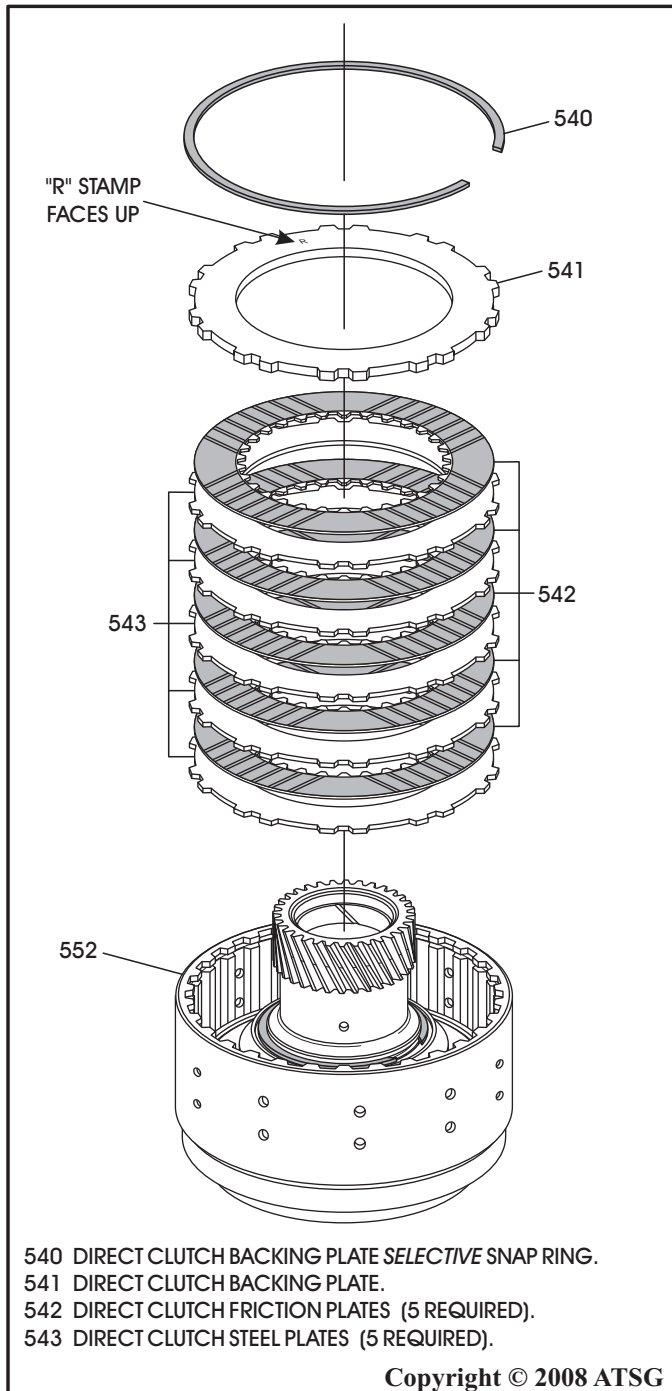

Figure 140
9. Install the direct clutch plates beginning with a steel plate and alternating with friction plates, as shown in Figure 140.
10. Install the direct clutch backing plate, as shown in Figure 140, with the "R" stamp facing up, and oriented same as steel plates.
11. Install the backing plate selective snap ring, as shown in Figure 140.